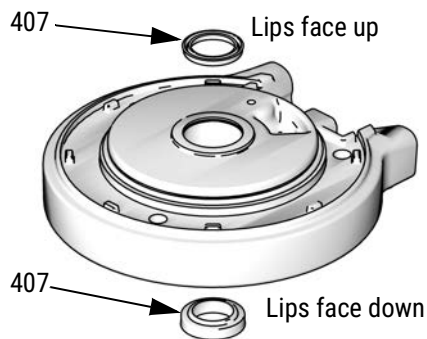

FIG. 10. Air Motor U-cup Installation
1. Lubricate and install the o-ring (402) on the top cover (410).
2. Lubricate the inside of the cylinder (405). Lower the cylinder onto the top cover (410).
3. Install the shield (406) around the cylinder (405) and in the groove on the top cover (410).
4. See FIG. 10. Lubricate and install new u-cup seal (407) in the bottom of the bearing in the bottom cover (401). The lips must face down. Lubricate and install new u-cup seal (407) in the top of the bearing. Lips must face up. Install retaining ring (417).